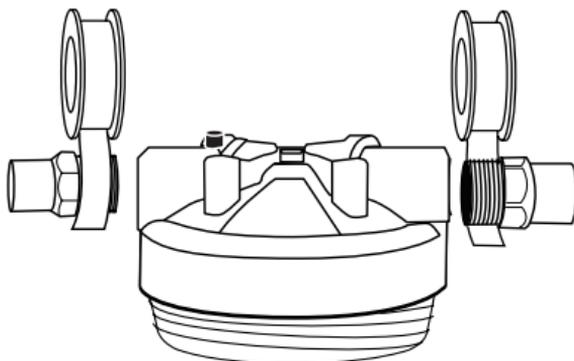

Figure 1
3. Wrap Plumbers tape (2 1/2 wraps) around the 3/4" male x 3/4" street adapter in a clockwise direction (See Figure 1) and screw firmly to filter head. Do not use pipe solvent (dope), as solvents in some types of pipe dope may cause damage to plastic fittings. Do not overtighten, overtightening can cause damage to filter head.